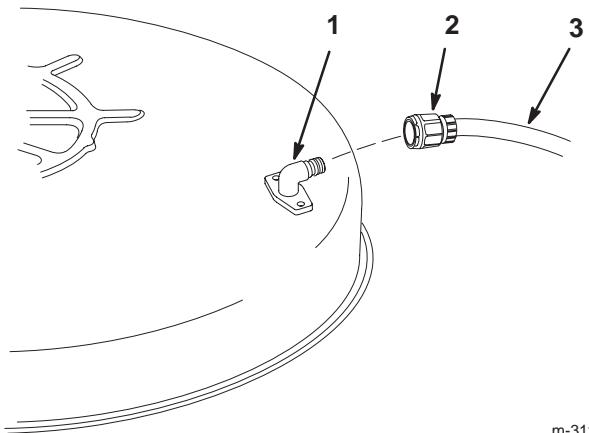

Figure 32
5. Attach the hose coupling to the end of the mower washout fitting and turn the water on high (Fig. 32).